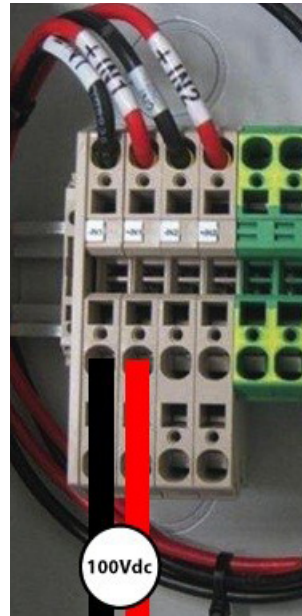

Figure 3 - 100Vdc inputs to an uninstalled inverter
- b. Connect a 100Vdc (1A is sufficient), isolated source to either one of the MPPT inputs (see Figure 3).